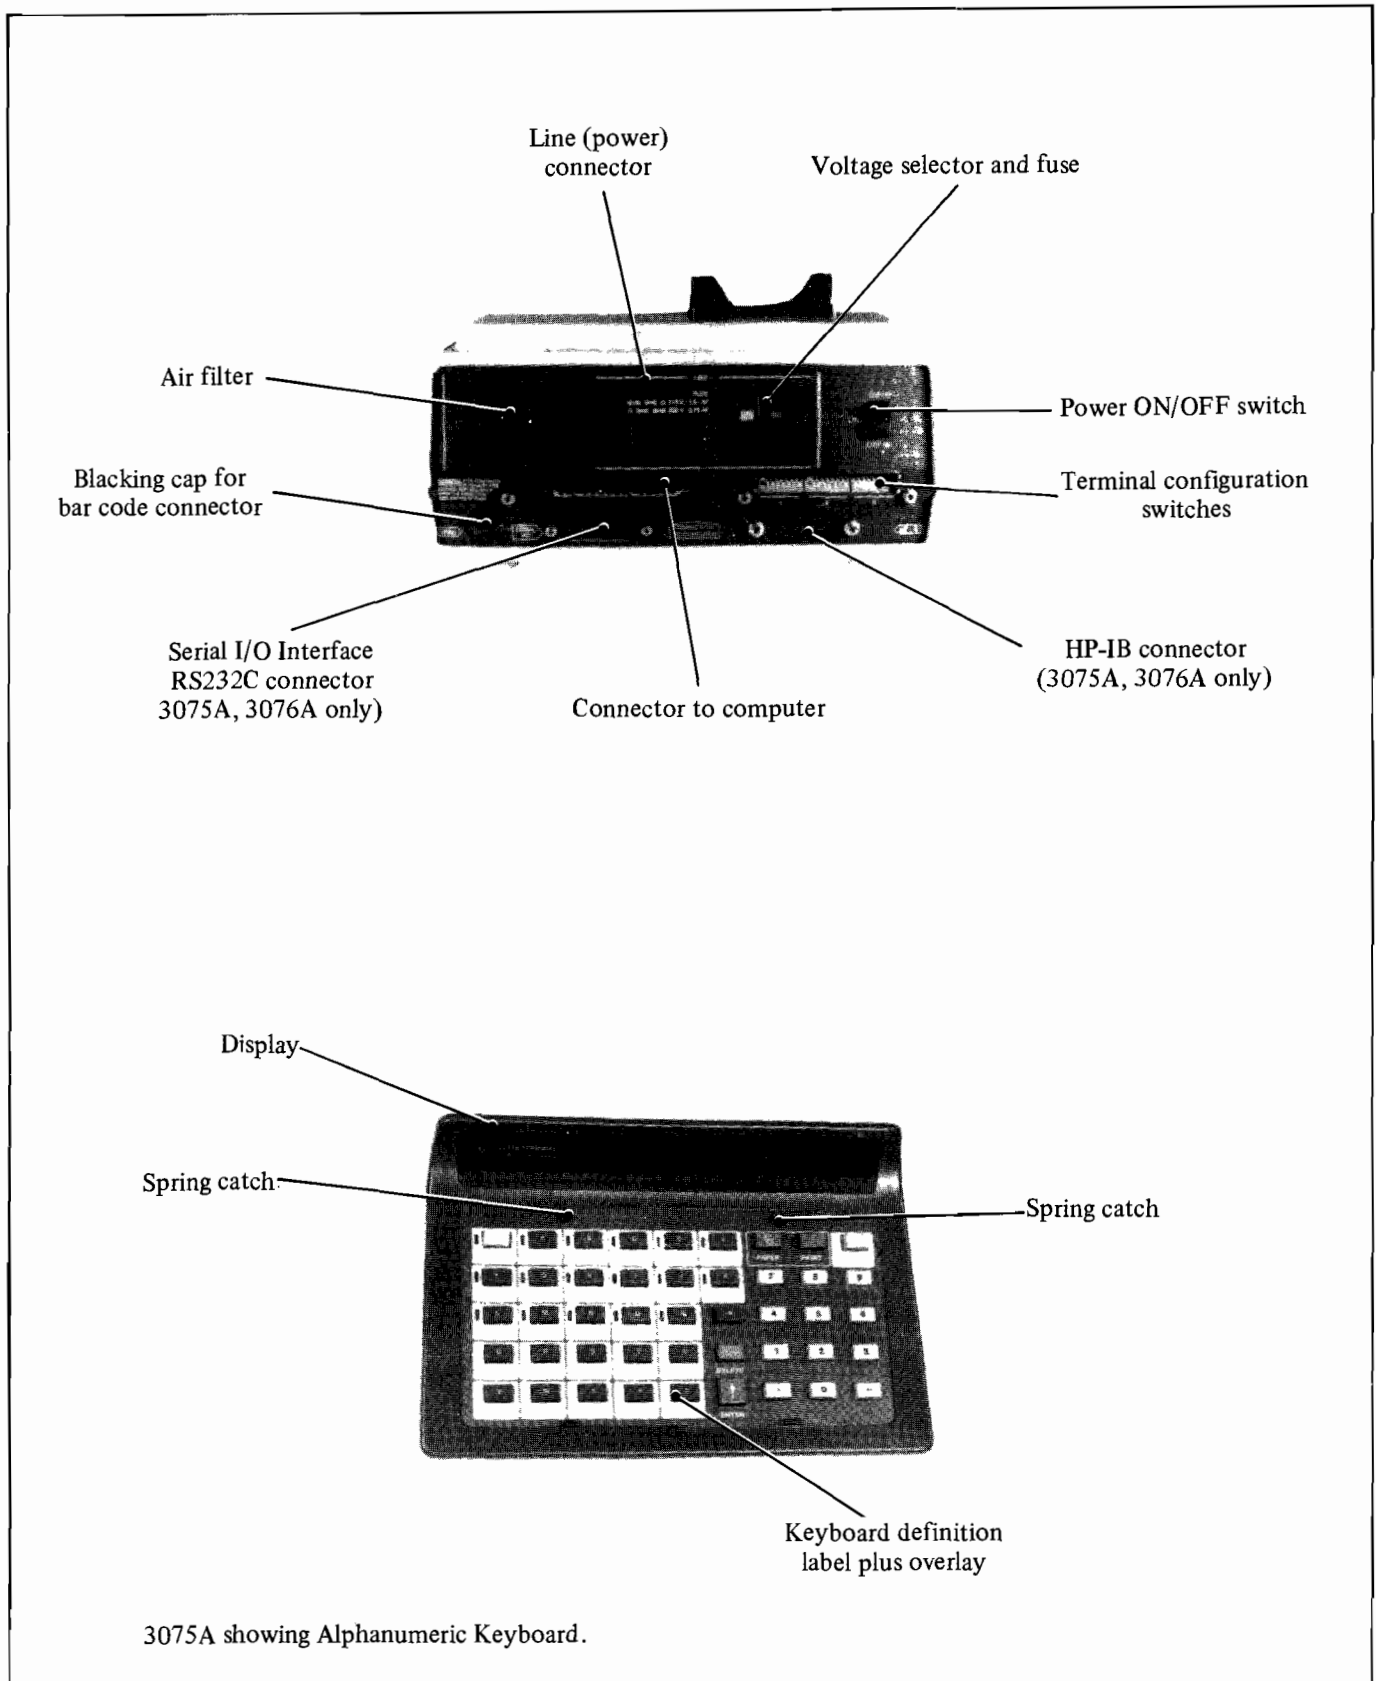

Figure 17-1 Terminal General Views
- 1) Set the rear panel switch labelled LINE to OFF (0) and disconnect the power cord from the LINE (power) connector, see figure 17-1.
- 4) Re-connect the LINE connector and switch on the terminal (by setting the LINE switch to ON (1)).
Press the keyboard spring catches (see figure 17-1) towards the display to release the overlay. Remove the overlay and label.
Remove the foam rubber air filter from the rear panel (see figure 17-1) and clean it with isopropyl alcohol. Refit the filter.